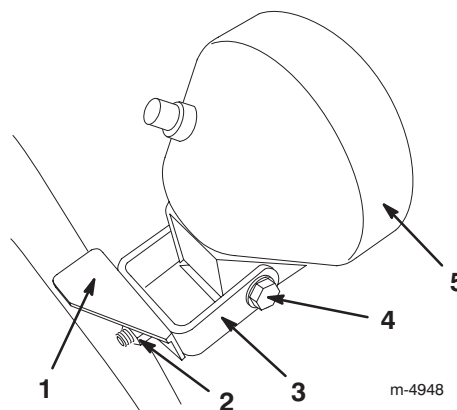

Figure 26
1. Loosen the 2 nuts on the U-bolt that hold the headlight bracket to the handle (Fig. 26).